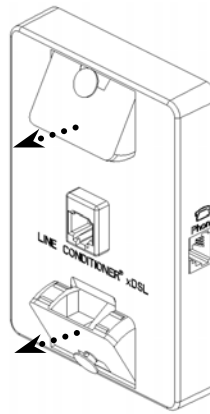

Fig 1
2. Open the top and bottom toggles until they hook on the outside cover, as shown in figure 1.
6. To remove the 630LCCU open top and bottom toggles as shown in figure 1. Then pull the 630LCCU off the wall jack.